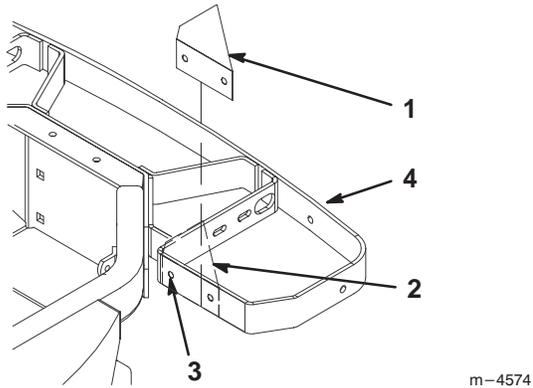

Figure 9
3. Place template number three onto the top of the rear bumper as shown in figure 9. Tape to bumper.
5. Rotate the leftside of bumper up to gain access to drill holes on front leftside of bumper (Fig. 9).
6. Drill two 11/32" holes onto the front of bumper (Fig. 9). Remove template.